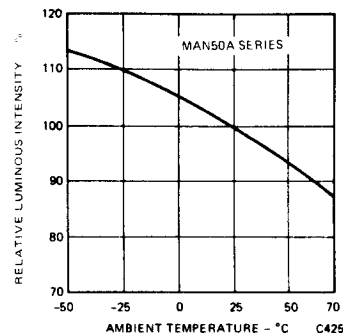

Fig. 3. Luminous Intensity vs. Temperature
2. The curve in Fig. 3, 6, 9, and 12 is normalized to the brightness at 25°C to indicate the relative luminous intensity over the operating temperature range.